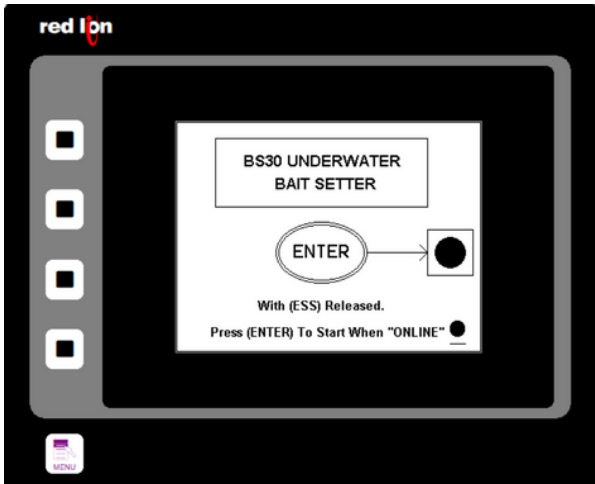

Figure 5.1. Confirmation of pressing enter button, on touch screen of deck service box.
- 3 The re-set PLC screen will appear on the deck service box. Select enter. Acknowledgment of the PLC being reset is shown in Figure 5.1.